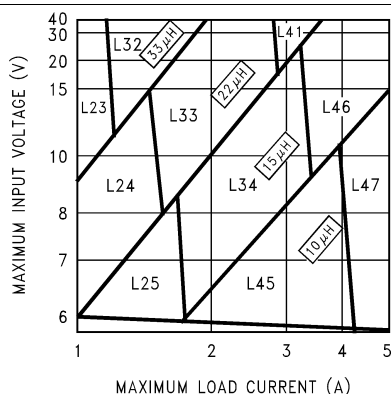
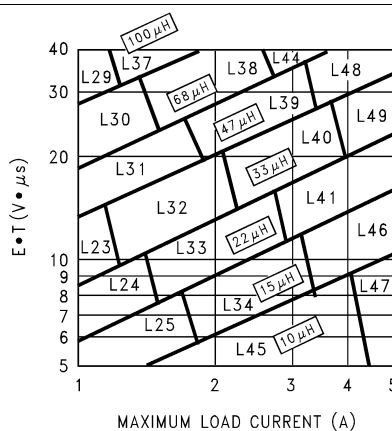

Figure 14. LM2679-3.3 V
Figure 17. LM2679-Adjustable Voltage
Step 3: Determine the inductor required by using one of the four nomographs, Figure 14 through Figure 17. Table 3 provides a specific manufacturer and part number for the inductor.
Step 5: Determine an input capacitor from Table 7 and Table 8 for fixed output voltage applications. Use Table 1 and Table 2 to find the specific capacitor type. For adjustable output circuits select a capacitor from Table 1 and Table 2 with a sufficient working voltage (WV) rating greater than $V_{IN\ max}$, and an RMS current rating greater than one-half the maximum load current (2 or more capacitors in parallel may be required).
Step 3: Use the nomograph for the 3.3-V device, Figure 14. The intersection of the 16 V horizontal line ($V_{IN \text{ max}}$) and the 4 A vertical line ($I_{load \text{ max}}$) indicates that L46, a 15- μH inductor, is required.